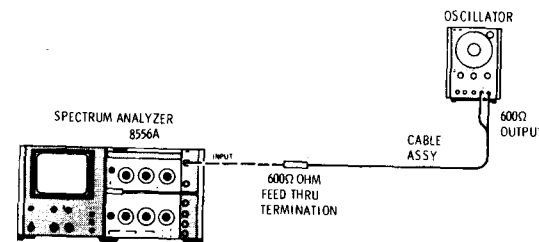

Figure 4-9. Residual FM Test Setup
- Connect equipment as shown in Figure 4-9, connecting the oscillator to analyzer INPUT through the 600 Ohm Feed Thru Termination.